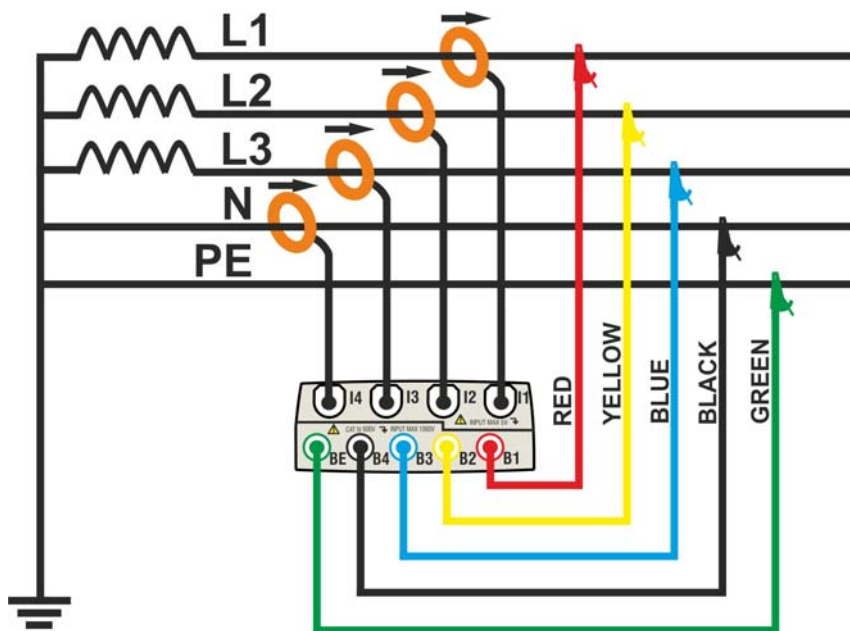

Fig. 117: Meter connection in a three phase 4-wire system – ENG\_UK type
2. Connect voltage test leads on Phases L1, L2, L3, Neutral and Ground cables considering the colours as shown in Fig. 117. **Verify the result “123” at display relative to a correct phase sequence indication** (see § 5.2.1) and perform the corrections if necessary.